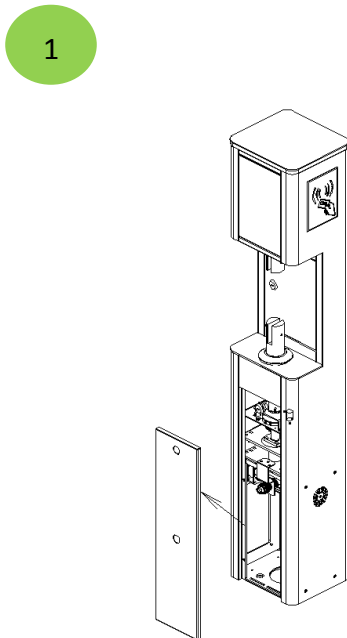

Figure 2-4A
5. Remove the access cover, as shown in Figure 2-4A.